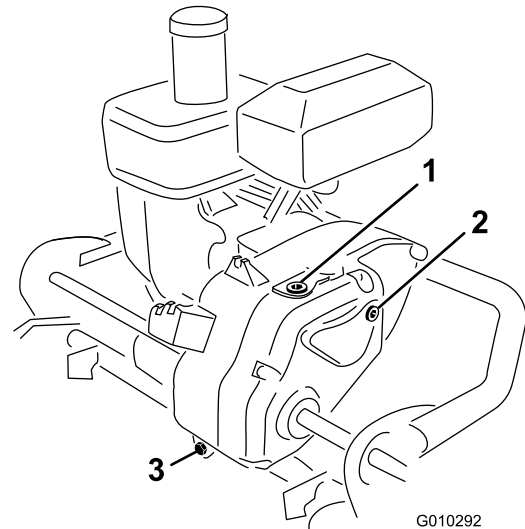

Figure 28
2. Remove the check plug from the right-hand side of the transmission (Figure 28). The oil level should come to the bottom of the hole. If it does not, remove the fill plug, from the top of the transmission, and add enough of the proper oil type until the level reaches the bottom of the check hole.
2. Remove the drain plug from the rear of the transmission (Figure 28).
3. Push down on the handle and tip the machine back. Remove the fill and check plugs from the transmission (Figure 28).